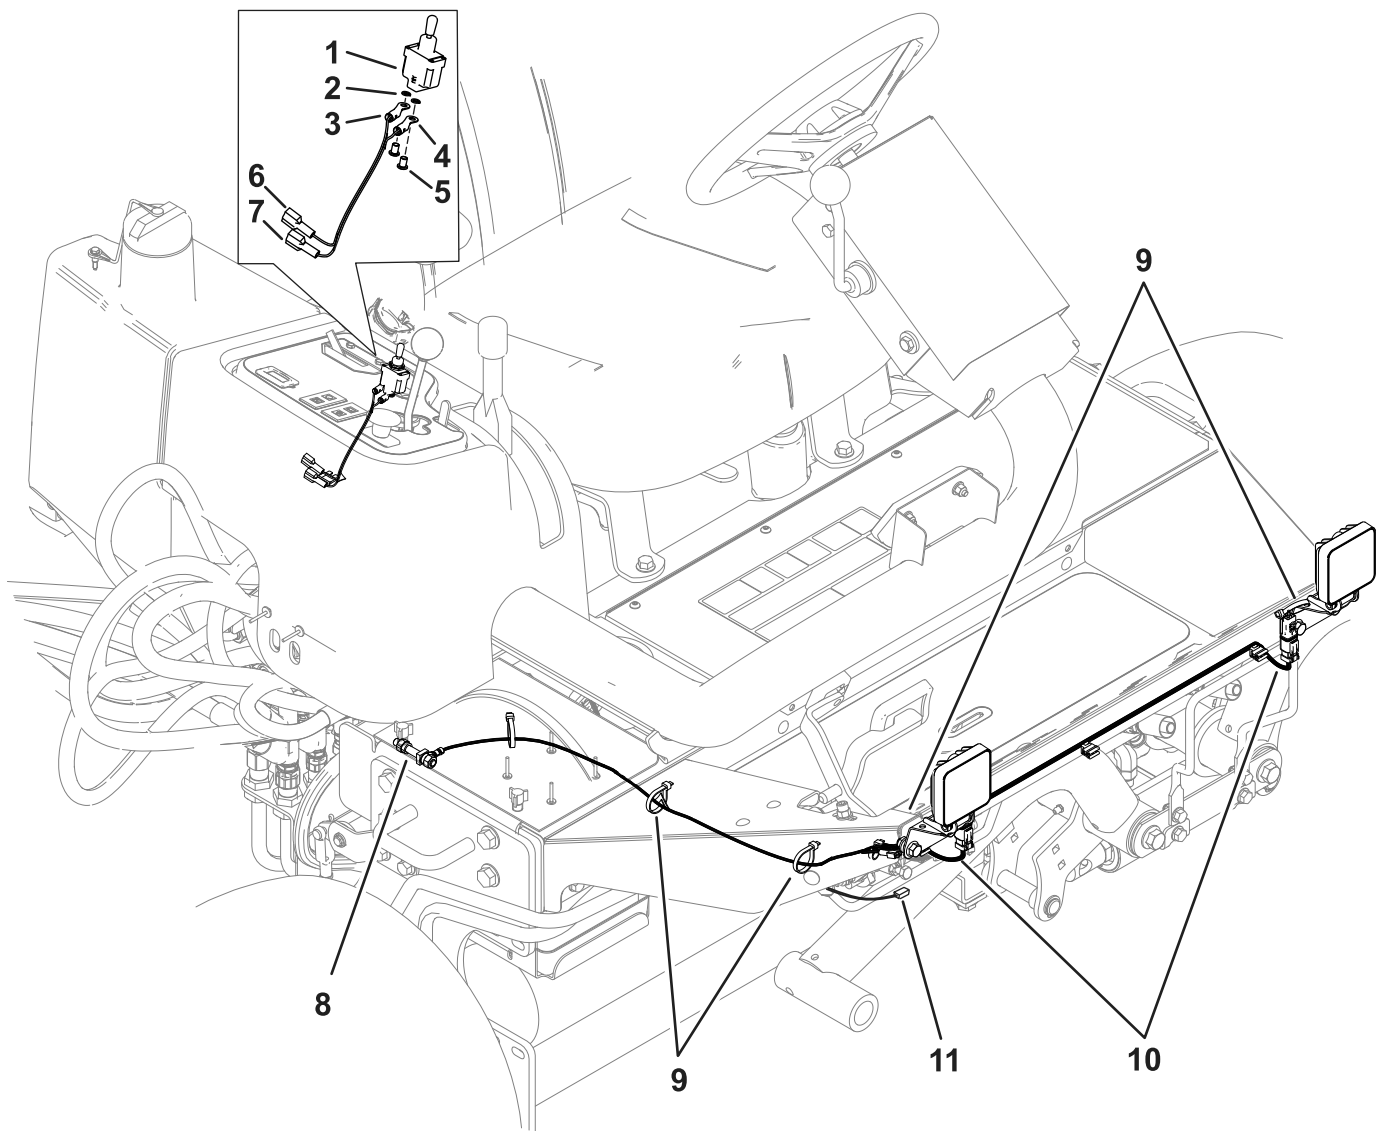

**Figure 5**
5. Mount the switch to control panel with the hex nuts and lock washer (Figure 5).